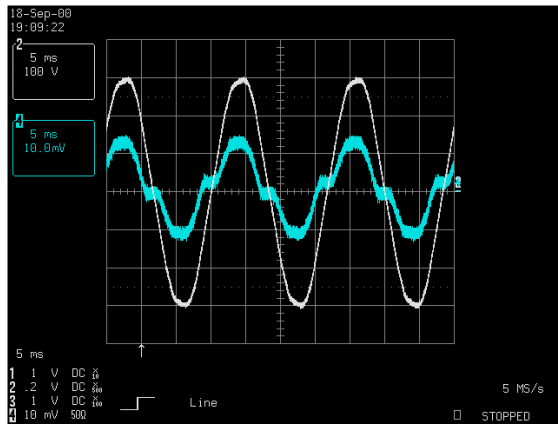

Figure 6: Input Voltage & Current
In most AC to DC power converters it is necessary to have the circuit act as a pure resistive load to the AC input line voltage. To achieve this, active power factor correction (PFC) can be implemented which, for an AC input line voltage, produces an AC input line current. It is also important to produce a sinusoidal input current which has a low total harmonic distortion (THD) and a high power factor (PF) (See Figure 6).